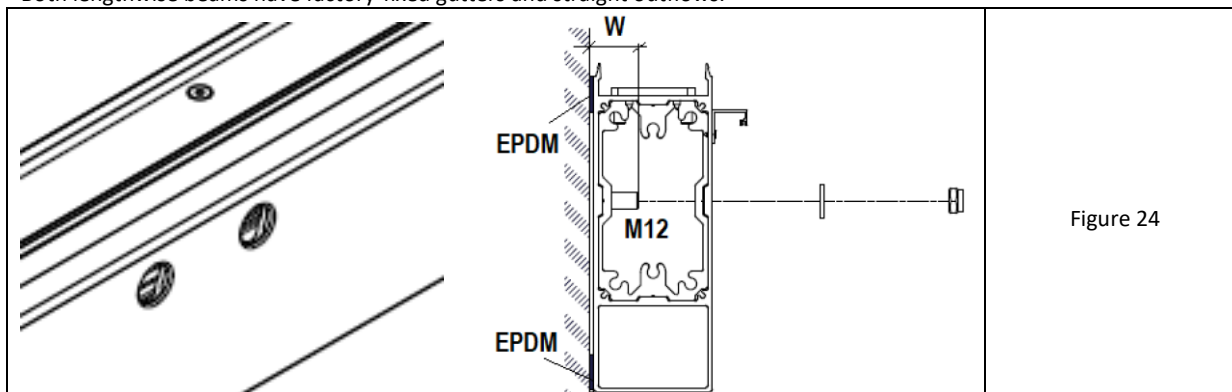

Figure 24
2. Embed the M12 size anchors (not supplied by SELT) in the ground, ensuring that they are leveled together and that the axial spacing is consistent with the arrangement of the holes in the beam. Maintain the correct distance of the anchor protrusion from the face of the wall in the range of $W = \text{min. } 35 \text{ and max. } 45 \text{ mm}$ (fig. 24).
3. On the back wall of the beam (from the wall side), after degreasing, stick EPDM self-adhesive spacer tapes at its upper and lower edge (fig. 24).